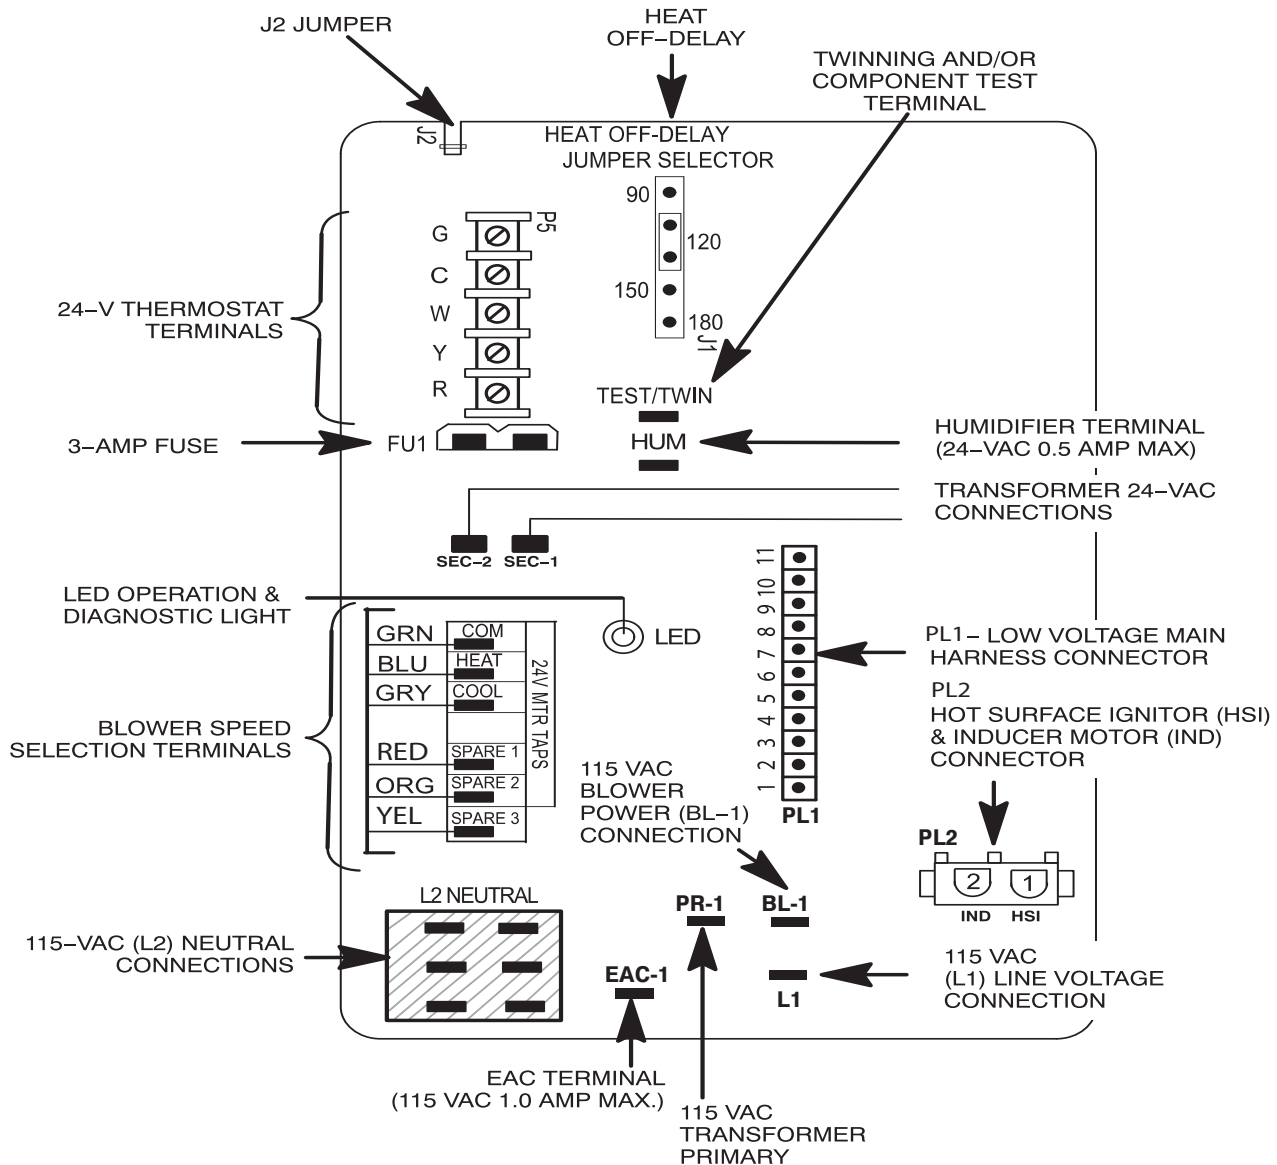
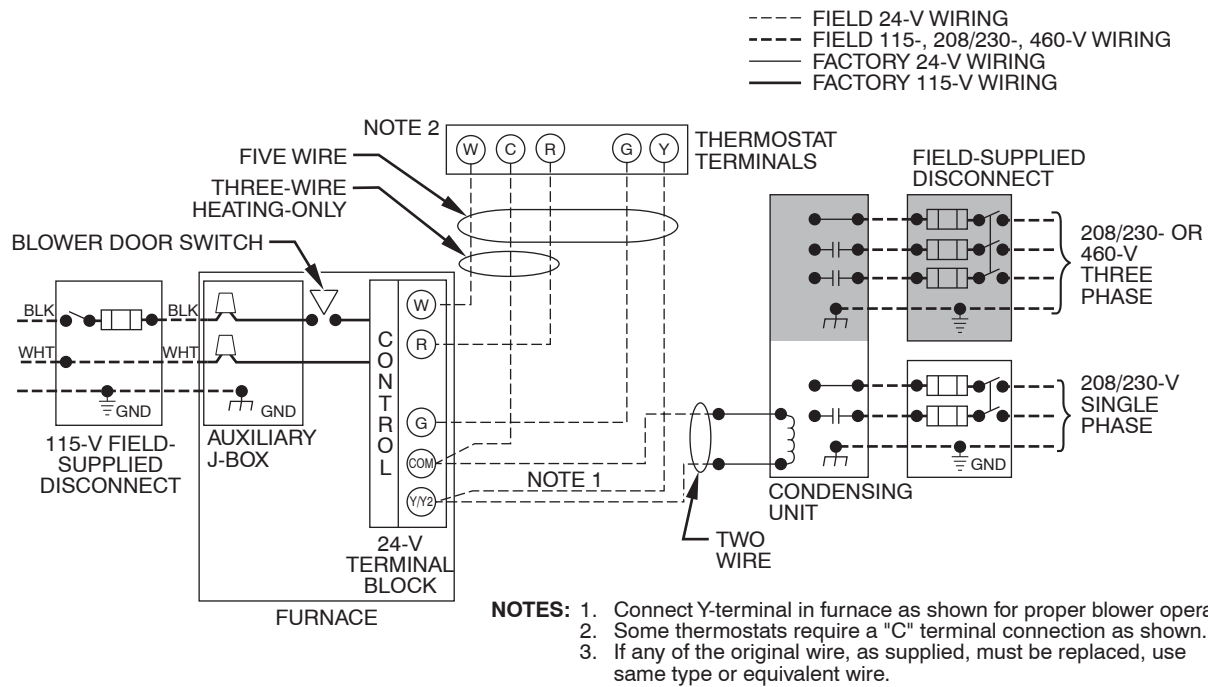

Fig. 24 – Furnace Control
Fig. 25 – Heating and Cooling Application Wiring Diagram with 1-Stage Thermostat
See Fig. 25 for field wiring diagram showing typical field 115–v wiring. Check all factory and field electrical connections for tightness.
12. Complete electrical box wiring and installation. Connect line voltage leads as shown in Fig. 25. Use best practices (NEC in U.S. for wire bushings, strain relief, etc.)
5. Connect line voltage leads as shown in Fig. 25.
Make field 24-v connections at the 24-v terminal strip. (See Fig. 25.) Connect terminal Y as shown in Fig. 24 for proper cooling operation. Use only AWG No. 18, color-coded, copper thermostat wire.
Connect an accessory Electronic Air Cleaner (if used) using 1/4-in female quick connect terminals to the two male 1/4-in quick-connect terminals on the control board marked EAC-1 and EAC-2. The terminals are rated for 115 VAC, 1.0 amps maximum and are energized during blower motor operation. (See Fig. 24.)
er (if used) to the 1/4-in male quick-connect HUM terminal and COM-24V screw terminal on the control board thermostat strip. The HUM terminal is energized when the pressure switch closes during a call for heat. (See Fig. 24.)